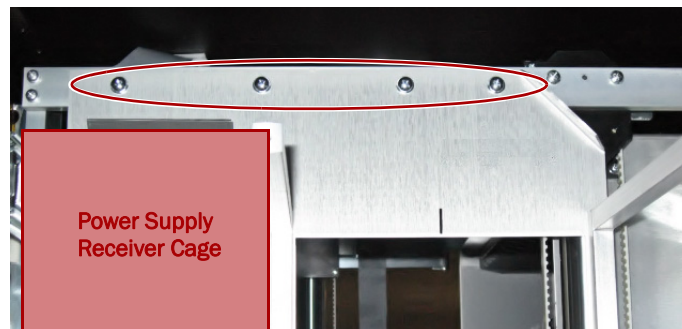

Figure 3-8: Rear Top Cross Bracket Screw Locations
2. Then loosen by one turn each the **rear four screws** along the cross bracket back side (Figure 3-8) that hold the power supply frame.